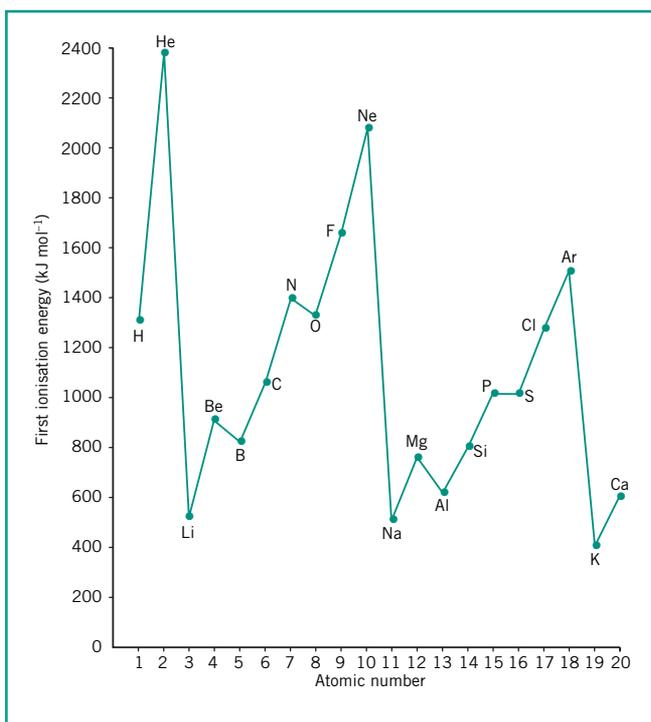

Figure 8.15 First ionisation energies of the first 20 elements
- The graph of first ionisation energies of the elements as a function of atomic number shows an increase in ionisation energy across each period, reaching a maximum at a noble gas (Figure 8.15). The increase in ionisation energy across a period is due to each successive element having one more proton in its nucleus. The extra electron for successive elements in a period occurs in the same energy level as other valence electrons. There is therefore a gradual increase in the attractive force between the nucleus and the valence electrons, leading to an increase in ionisation energy.
- 8** By reference to Figure 8.15, **predict** whether the first ionisation energy for krypton would be greater than or less than  $1500 \text{ kJ mol}^{-1}$ .